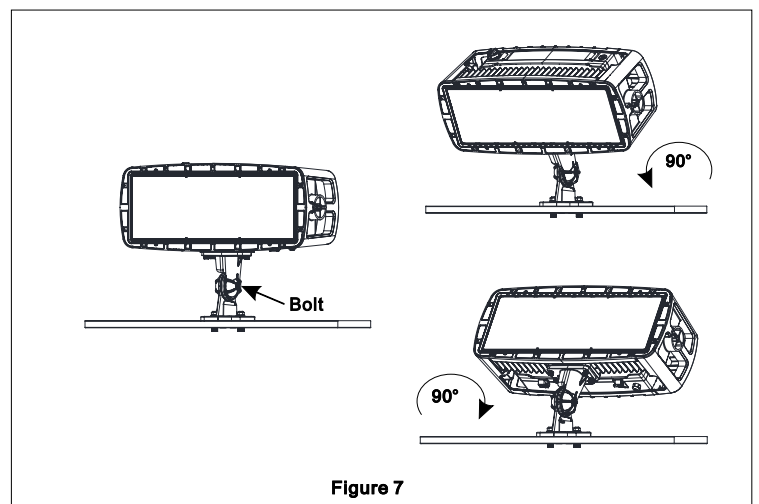

Figure 7
- Set the up/down orientation by loosening the bolts in the knuckle of the Universal Mount, turning the knuckle, and then re-torque the bolts to 36.9 ft. lbs. (Figure 7).